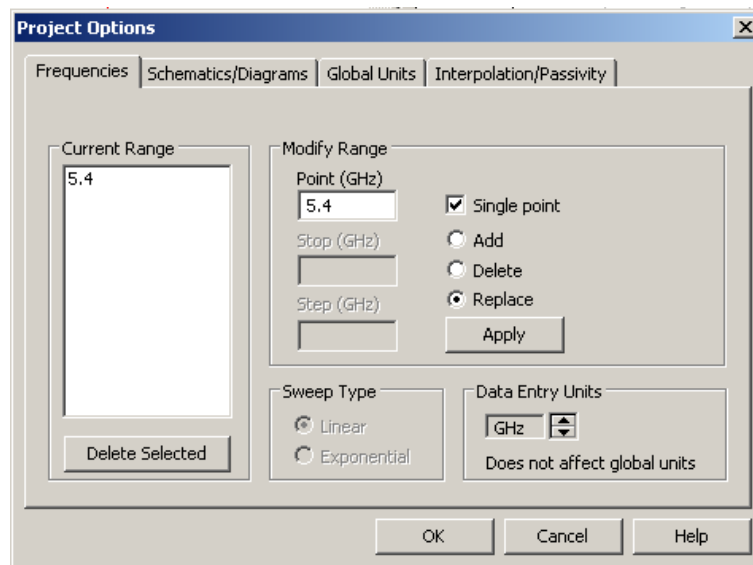

Figure 3.3: Chart 1 : Project Frequencies
- Ensure your 'frequencies' tab is as shown in figure 3.3.